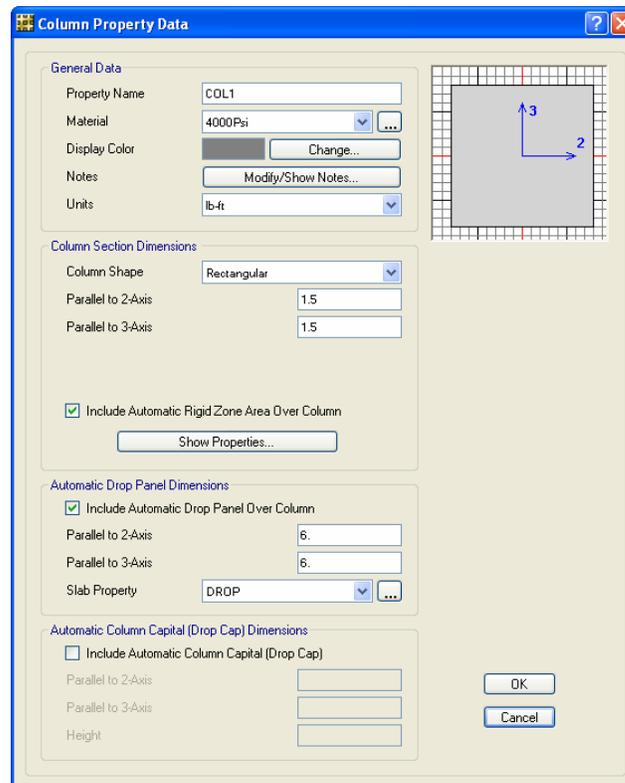

Figure 15 Column Property Data form
- C. Click the **Modify/Show Property** button to access the Column Property Data form shown in Figure 15. Recall that the columns for the project are 18 inches square and that the drop panels are 6 feet square.